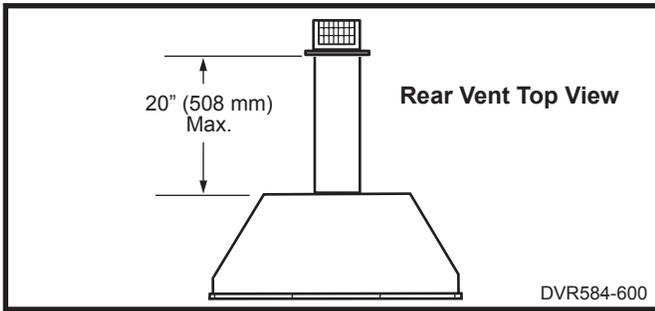

Fig. 20 Rear vent application, no elbows.
- The maximum horizontal distance between the rear of the appliance (or end of the transition elbow in a corner application) and the outside face of the rear wall is 20" (508mm). (Fig. 20, 21)